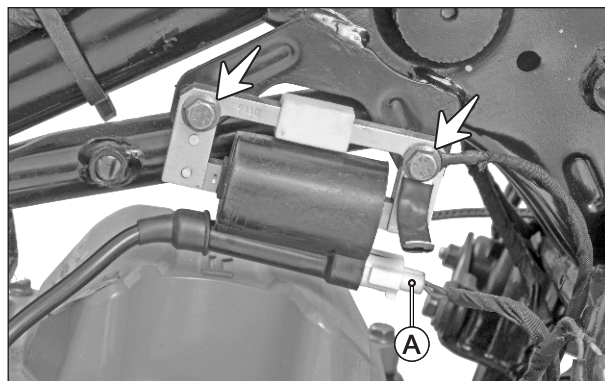

Fig. 3.28
- Disconnect the wiring socket (A) of ignition coil from the wiring harness. (Fig. 3.28)